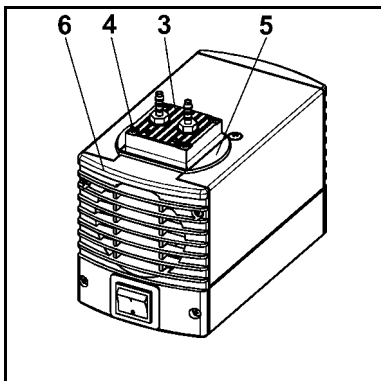

Fig. 5: Removing pump head
1. Mark the position of head plate (Fig. 5/3), cover (5) and cover plate (6) by a drawing line with a pencil. This helps to avoid incorrect assembly later.
2. Undo the 4 screws (4) in the head plate (3) and lift the head plate together with cover (5) off the pump housing.
1. Place the intermediate plate (2), with valve plates (7) and sealing rings (8) on the housing, in the position indicated by the drawing line.
2. Place the head plate (3) with cover (fig. 5/5) on the housing (fig. 6/1), in the position indicated by the drawing line.
3. Check that the head plate (3) is centred by moving it gently sideways.
4. Tighten the screws (4), evenly and diagonally, first gently, then firmly.